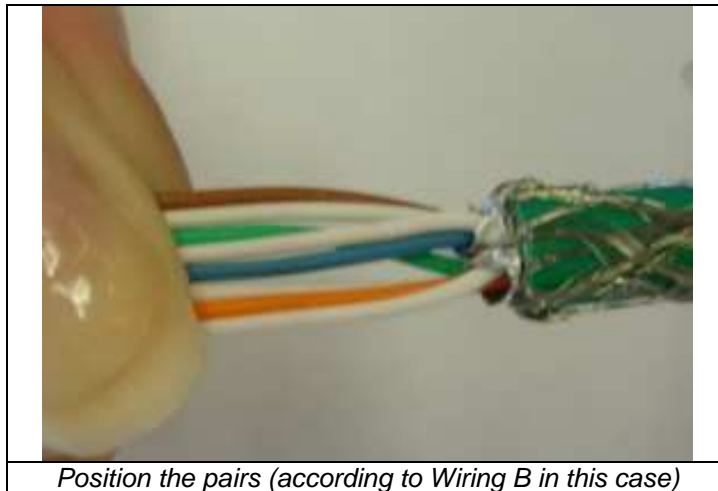

Figure 5
2. Position the pairs according to the right Wiring. Try to avoid twisting between pairs as much as possible. See Figure 5.